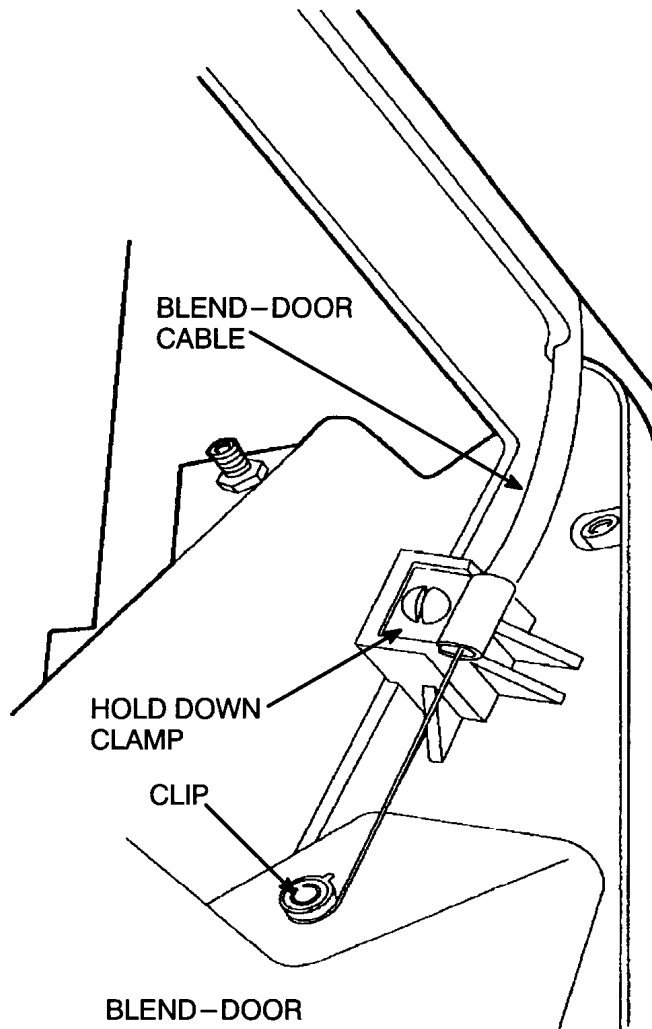

Figure 51 Connection of HOT-COLD Cable to Cab Blend-Door Assembly
9. Inside Blend-Air unit, remove hold down clamp for HOT-COLD cable. Refer to Figure 51 and Figure 1.
10. Inside Blend-Air unit, remove clip that secures HOT-COLD cable to cab Blend-Air door, and disconnect cable from door (Figure 51 and Figure 1).
7. Inside Blend-Air unit, attach end of HOT-COLD cable to cab Blend-Air door and secure with clip removed previously. Refer to Figure 51.
8. Inside Blend-Air unit, install hold down clamp for HOT-COLD cable (Figure 51).